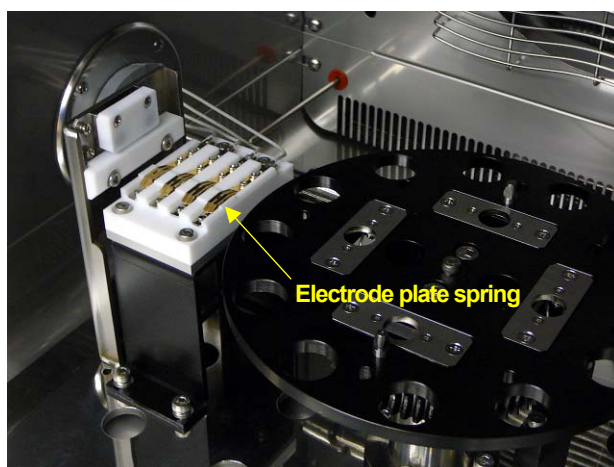

Fig.4-1 Electrode plate spring
- ① Diligently clean the inside of the chamber using a small cleaner. If a broken sample is left in it when using it, a **failure caused by a foreign object caught in the drive part of the turn table, wear on the electrode, or dirt could occur.**
- ② In particular, dirt on the electrode on the back of the turn table and on the contact holder (see Fig.4-1) could **cause the contact resistance to increase; resulting in an error in measurement.** Regularly use a soft cloth moistened with ethyl alcohol to clean the dirt.